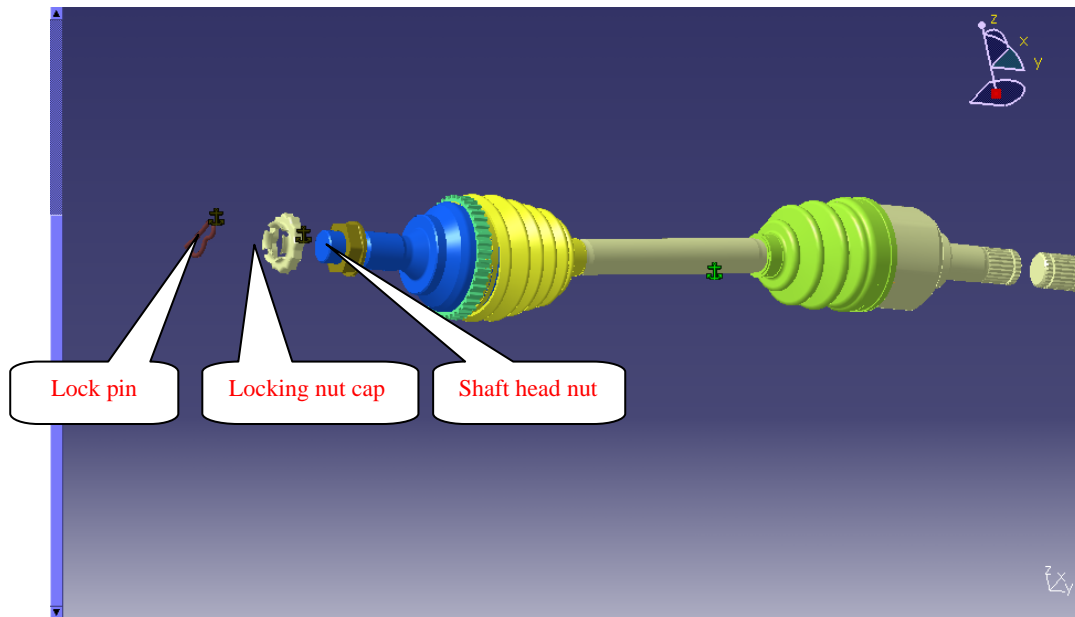

Figure 1.2
5) Fits up the axle nuts and locks the nut caps and lock pins (See figure 1.2)